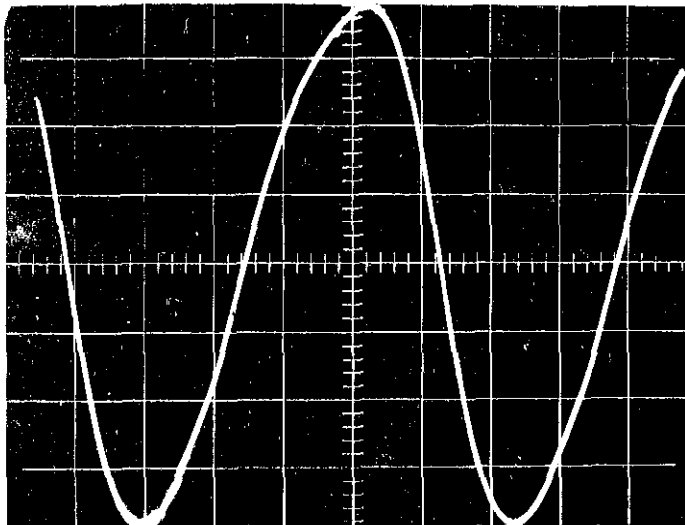

FIGURE 25. Correct Wave Form at Point F (Figure 30) in Oscillator Circuit. Scale is 2 v/cm vertical, 2 msec/cm horizontal.
4. Check the wave form at point F. It should be essentially sinusoidal, as in Figure 25.
If transistors Q21, Q22 or Q23 are replaced, it may be necessary to change resistor R307. A 27-kilohm resistor should provide the proper bias for Q22 and Q23. The wave form at point F should resemble Figure 25.